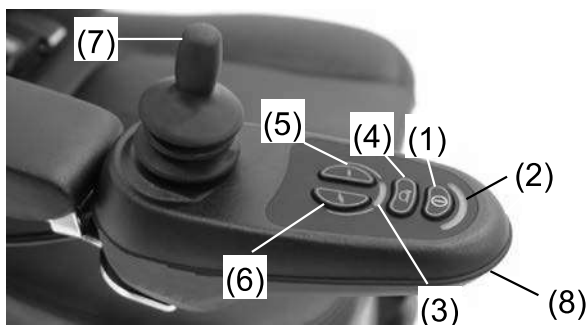

Fig. 5
2. Connect the charger to the charging port at the front of the VR2 (item 8 in Fig.5)